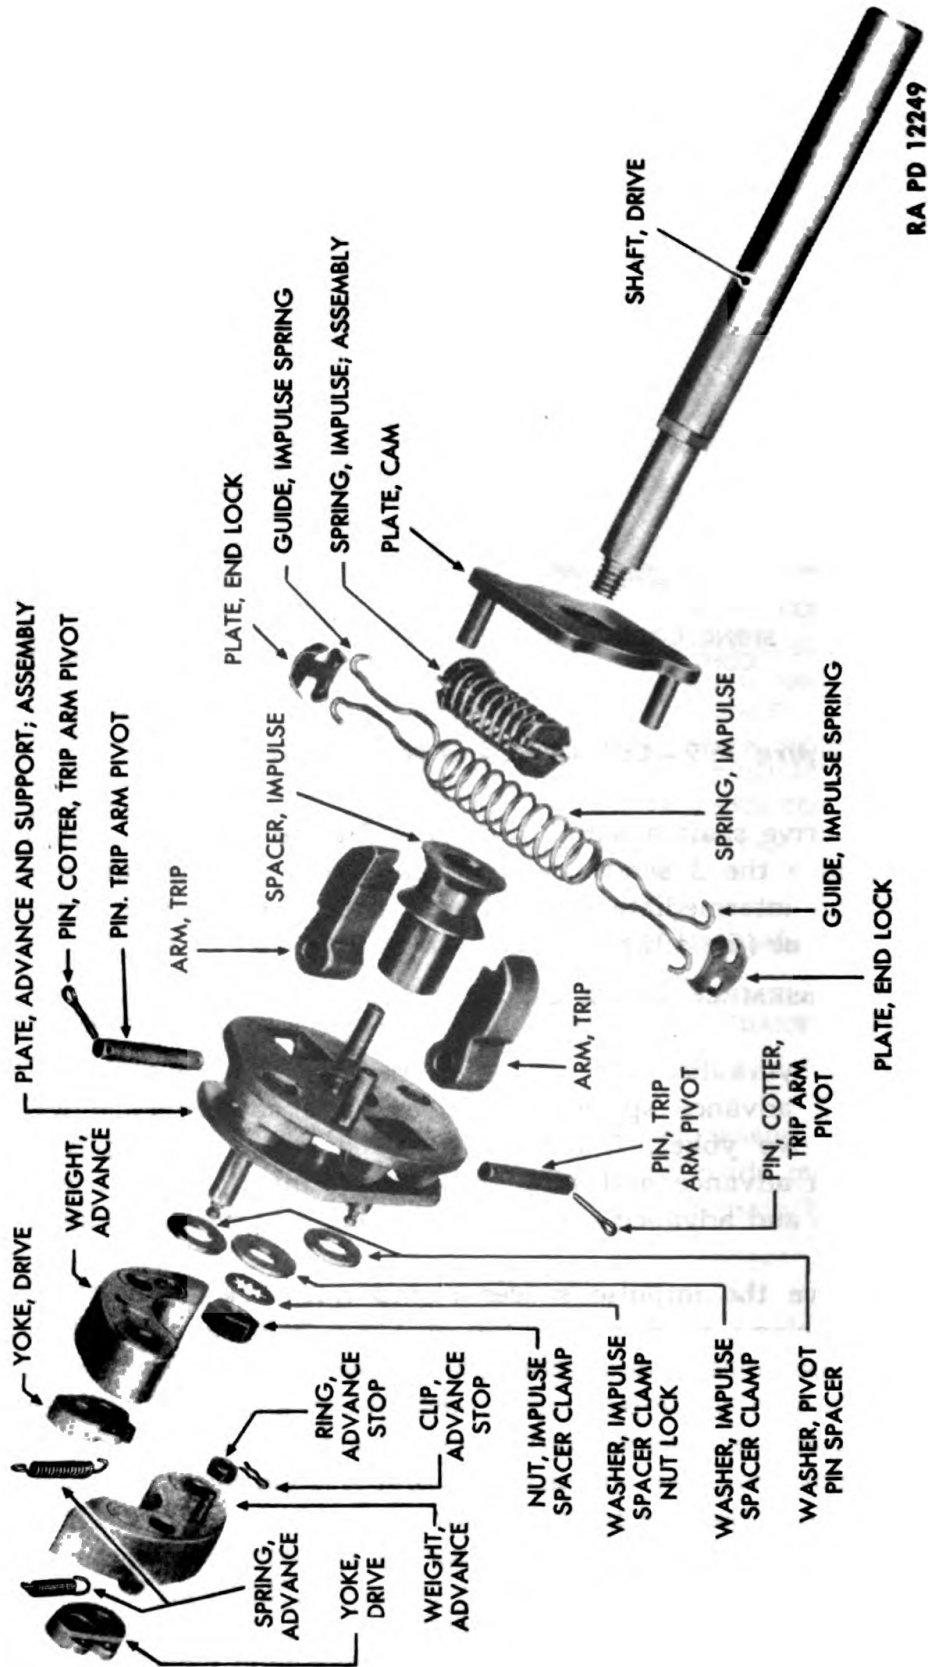

Figure 200—Automatic Advance and Impulse Assembly
- (a) Lift 2 advance springs off drive yokes and advance weights. Remove 2 drive yokes, 2 advance weights, and 2 pivot pin spacer washers from advance and support plate assembly. Remove advance stop ring clip and advance stop ring from one of advance weights (fig. 200).
(b) Remove the impulse spacer clamp nut, lock washer, and impulse spacer clamp washer from top of drive shaft (fig. 200).
(c) Pull advance and support plate assembly off drive shaft. Remove 2 trip arm pivot pin cotter pins, 2 trip arm pivot pins, and 2 trip arms from the advance and support plate (fig. 200).
(d) Remove impulse spacer and 2 impulse spring assemblies from cam plate. Compress the impulse spring assemblies, and remove the 4 end lock plates. Pull the 4 impulse spring guides out of the 2 impulse springs (fig. 200).
(e) Press cam plate off drive shaft (fig. 200).
(f) Remove advance stop clip and advance stop ring from the one advance weight having a ring and clip on it (fig. 200).